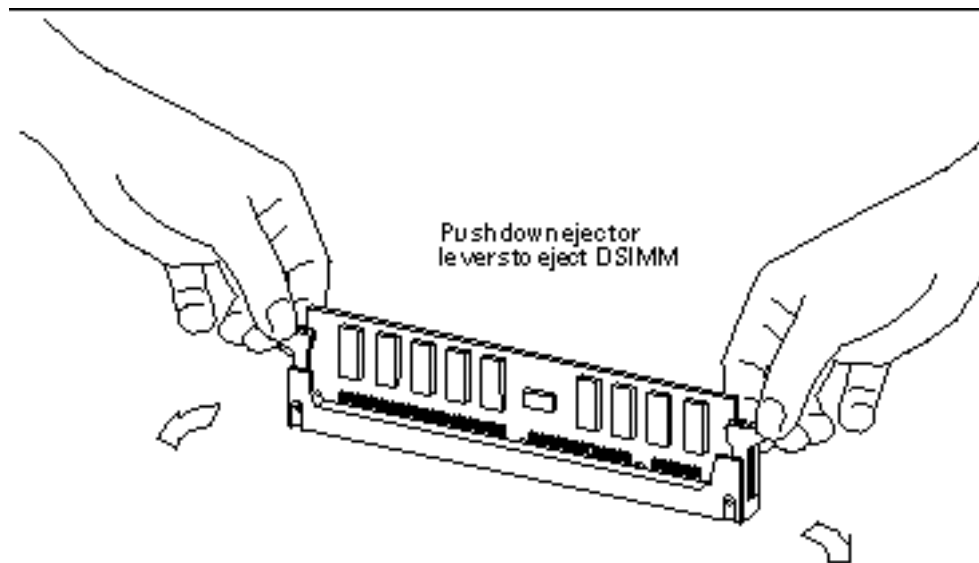

Figure 11-15 Ejecting a DSIMM
5. To eject the faulty DSIMM, press down on the ejection levers on both sides of the DSIMM connector (see Figure 11-15).